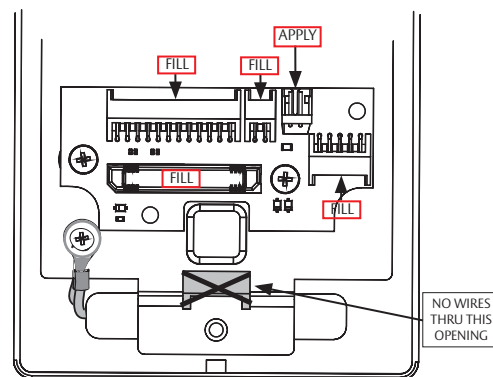
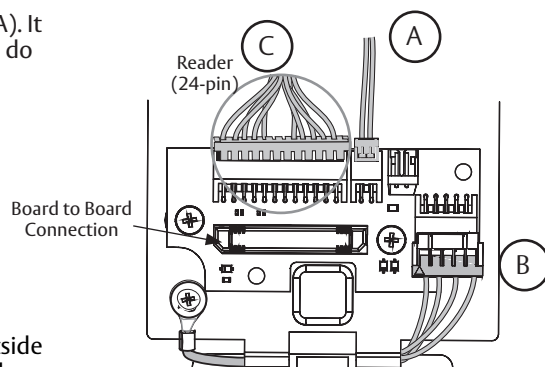

Figure 11-3A
Figure 11-3B
- Ensure all connector pins and contacts (Figure 11-3A) are covered - do not overfill or over-apply\*\*
**IMPORTANT:** DO NOT run wires through bottom hole in plate (Figure 11-3A). It will damage wires and the controller connector. Route wires around flange, do not route wires through the flange hole (Figure 11-3B).
- Secure the mounting assembly while ensuring proper alignment of outside reader and fully tighten the two (2) through-bolts on the inside of the door to secure the reader and plate to the door.
C. Secure the 24-pin card reader connector. (Figure 11-3B)